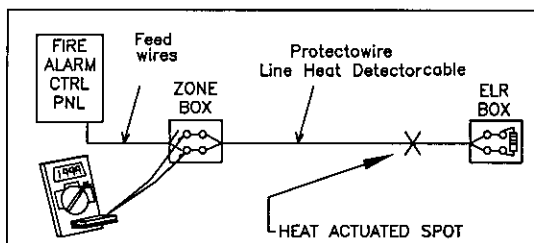
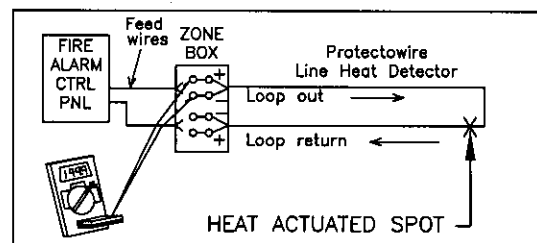

FIG. 3 CLASS B DET. CKT. W/METER CONNECTED
FIG. 4 CLASS A DET. CKT. W/METER CONNECTED.
- 1.03 A Protectowire Alarm Point Locator Meter identifies the location of the heat actuated (shorted) spot on the Protectowire line heat detector. (See Figures 3 & 4)
If detection (initiating) circuit is a two wire Class B (NFPA Style A) start at the ZONE BOX which is the beginning of the Protectowire run. Disconnect at least one side (wire) of the detection circuit (See figure 3). Connect test leads across the Protectowire side of the detection ckt. With the meter and adapter power on the meter will display the distance from the start of the Protectowire run to the actuated point. If the actuated point is beyond a cable run that is greater than 1999 feet, switch the meter to the 2Vdc scale and multiply the reading by X10.
If detection circuit is a four wire Class A (NFPA Style D) start at ZONE BOX (see figure 4) mark and disconnect all for (4) wires, the two going out to the detection loop and the two returning. Connect the meter test leads across two wires going out. Meter will display location of the overheated point. Now connect the test leads across two returning wires. Meter will display a second reading. Add the two readings and you will get the total length of the Protectowire. Either way, from the start of the run to the actuated point or from the return of the wire run to the actuated point the location is at the same point on the Protectowire.
The actual length of Protectowire cable in a detection zone can be determined basically the same way as finding the alarm point on the cable, as described in Para. 3.02. This is accomplished by placing a jumper across the end of the Protectowire run, this would be in the ELR BOX for the two wire Class B CKT (See Figure 3). For the Class A CKT place jumper across the two return loop wires in the ZONE BOX (See-Figure 4). Connect the meter at the start of the Protectowire cable run, meter will display the total length of cable in that zone.